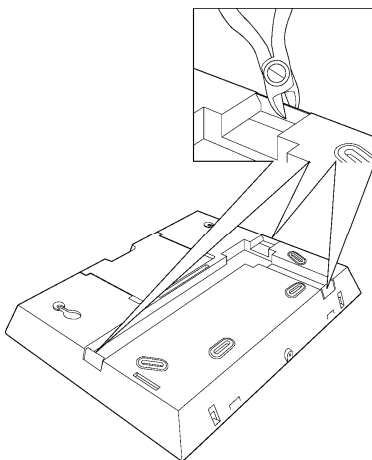

Figure 2-4: Open cable knockouts
7. Open the wire entry knockouts in the back panel and insert the wires and cables via the cable's opening (including AC cable and telephone cable), see figure 2-4.